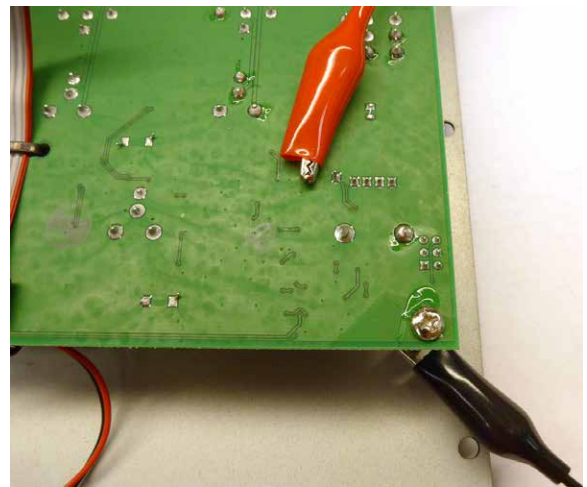

Figure 9.3 - DSP quick check with DC power supply
3. Connect a bench-top DC power supply to the bottom-side of the PCB. Connect the positive/red lead to positive side of C45. Connect negative/black lead to a metal chassis component on the faceplate. (Figure 9.3)